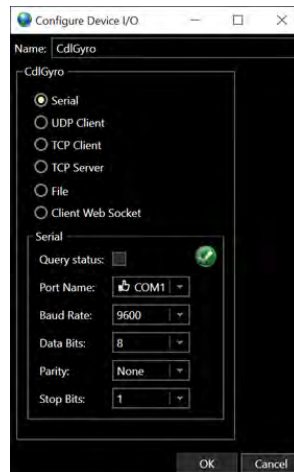

FIGURE 5-5 DEVICES I/O - SERIAL CONFIGURATION
- b. Click the  button to open the Configure Device Communications dialog (see Figure 5-5); or